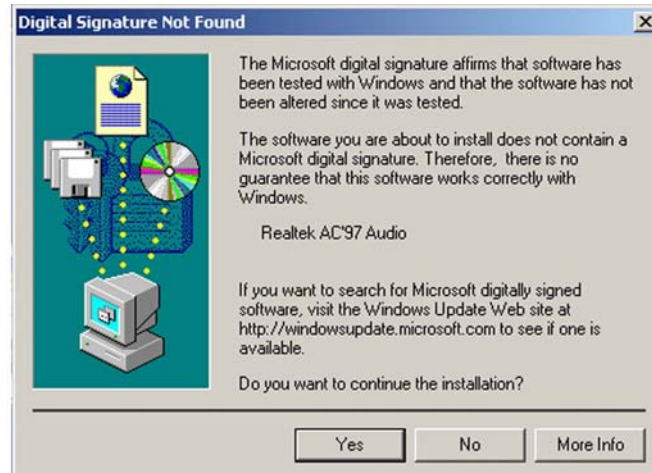
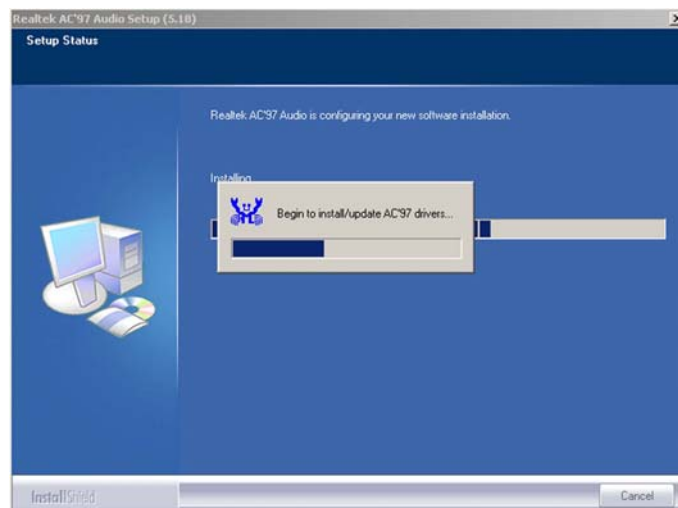

Figure 7-10: Audio Driver Digital Signal
Figure 7-11: Audio Driver Installation Begins
Step 5: At this stage the “Digital Signal Not Found” screen shown in **Figure 7-10** appears. To continue the installation process, click the “Yes” button. The installation notice shown below appears.
Step 6: At this stage the clicking the “Yes” button in Figure 7-10 appears, the installation of the driver begins. See Figure 7-11.